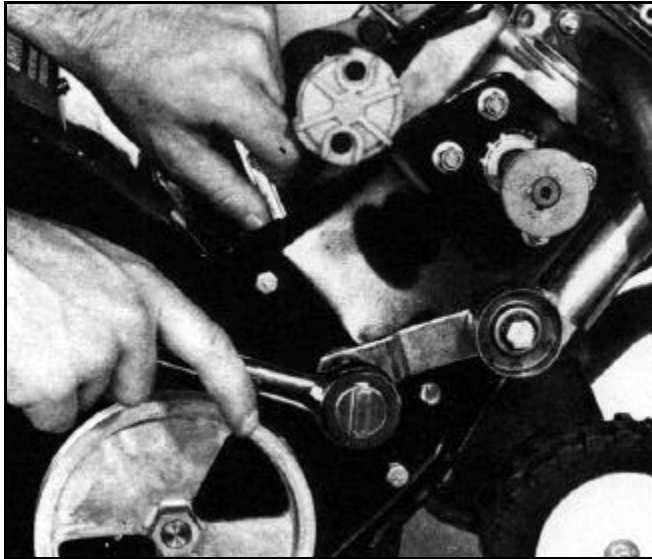

Figure 67
- Using a 5/8" open end wrench and a 1/2" socket wrench, remove the shoulder bolt, washers, and nut, retaining the idler assembly to the left side plate (Figure 67). At this point, inspect the entire assembly. If the idler arm is misformed, replace. Also, inspect the washers for excessive wear. Replace if necessary.